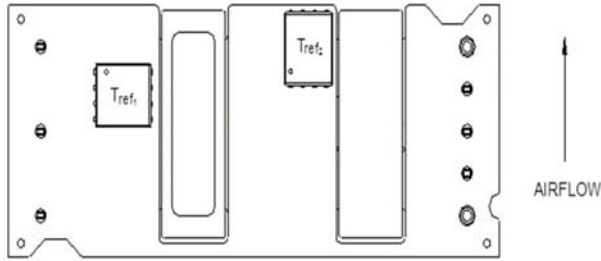
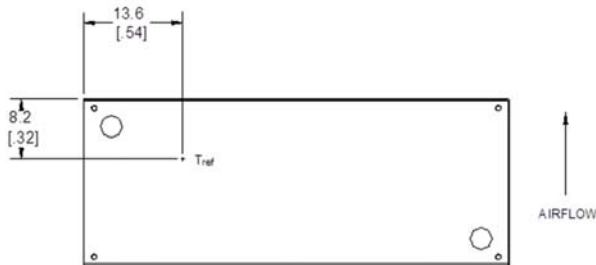

Figure 13. T_{ref} Temperature Measurement Locations for Open Frame Module.
Figure 14. T_{ref} Temperature Measurement Location for Module with Heatplate.
To provide protection under certain fault conditions, the unit is equipped with a thermal shutdown circuit. The unit will shutdown if the thermal reference point, T_{ref} , exceed 135 °C (Figure 13, typical) or 120 °C (Figure 14, typical), but the thermal shutdown is not intended as a guarantee that the unit will survive temperatures beyond its rating. The module will automatically restart upon cool-down to a safe temperature.
The thermal reference points, T_{ref1} , and T_{ref2} used in the specifications for open frame modules are shown in Figure 13. For reliable operation these temperatures should not exceed 124 °C & 121 °C respectively
The thermal reference point, T_{ref} , used in the specifications for modules with heatplate is shown in Figure 14. For reliable operation this temperature should not exceed 98 °C.